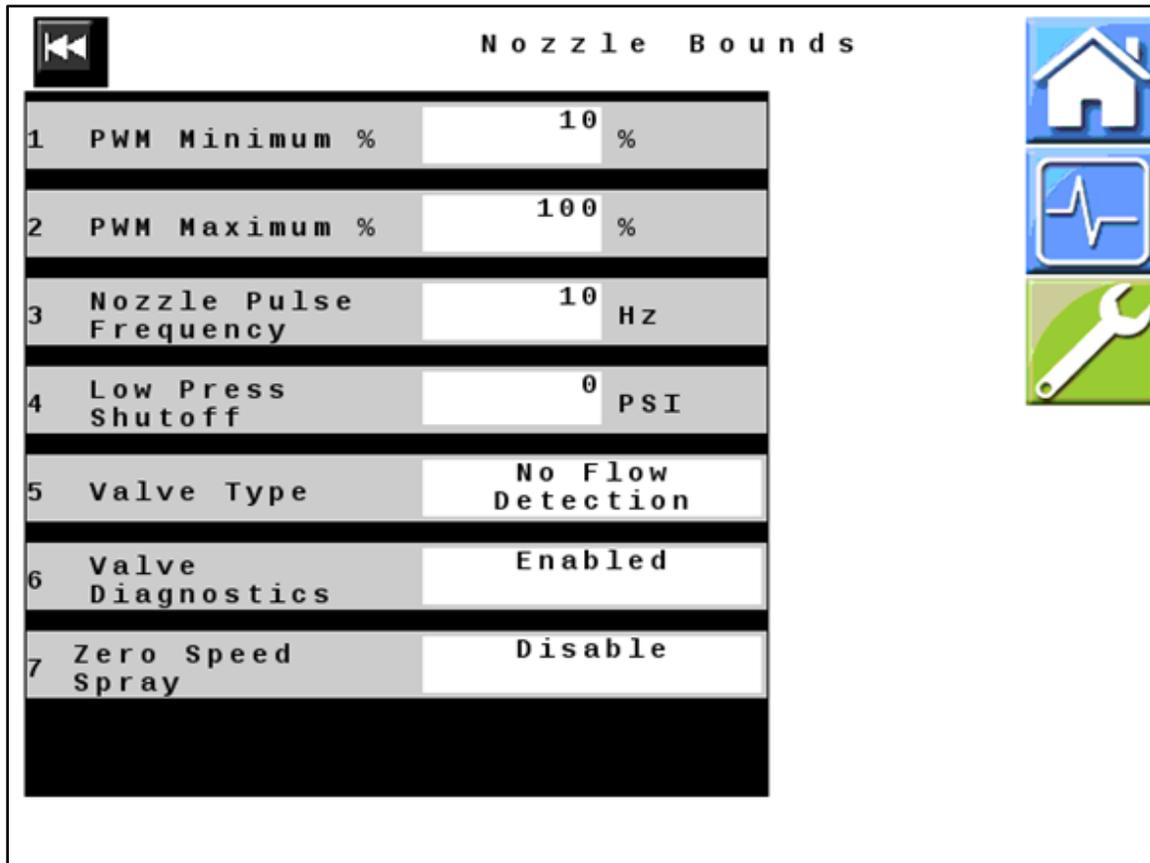

Figure 9 — Nozzle Bounds
16. *Figure 9:* The information in the fields on this screen is machine specific, verify that it is correct for your machine, and change any settings if necessary.